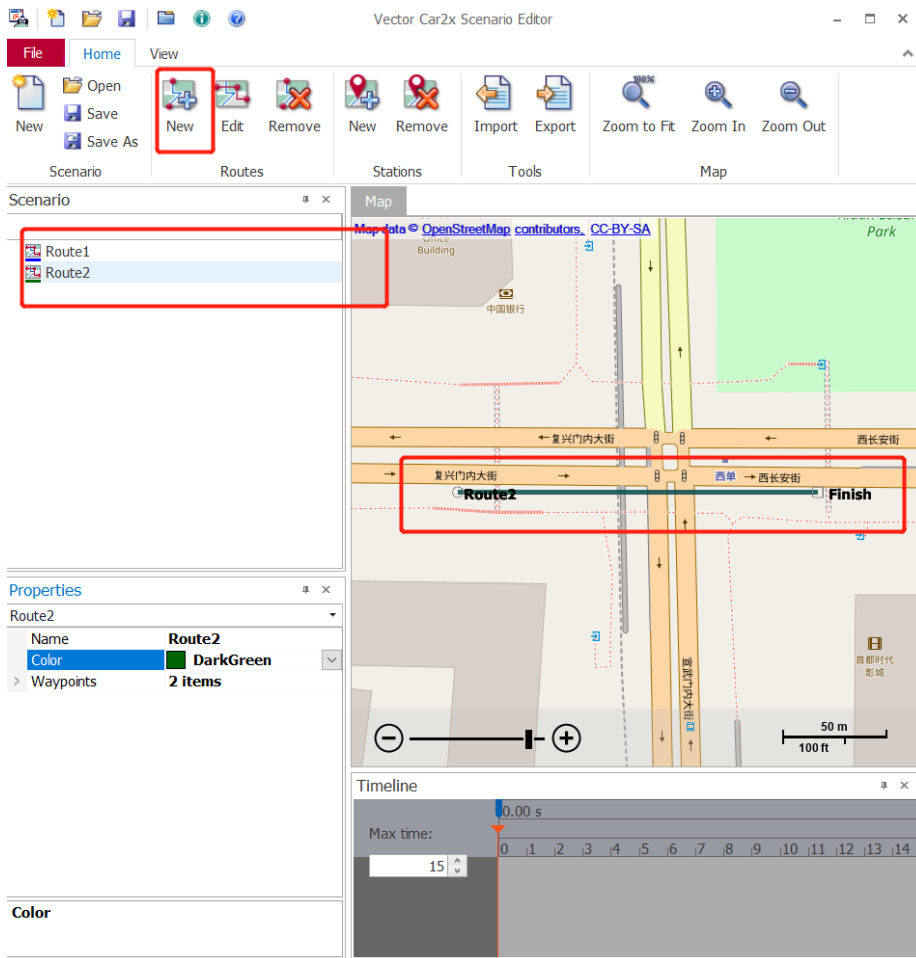

Figure 10 : Add new routes
- ▶ Scale the map and select an appropriate intersection, click New Routes, and add 2 traffic paths (Figure 10)